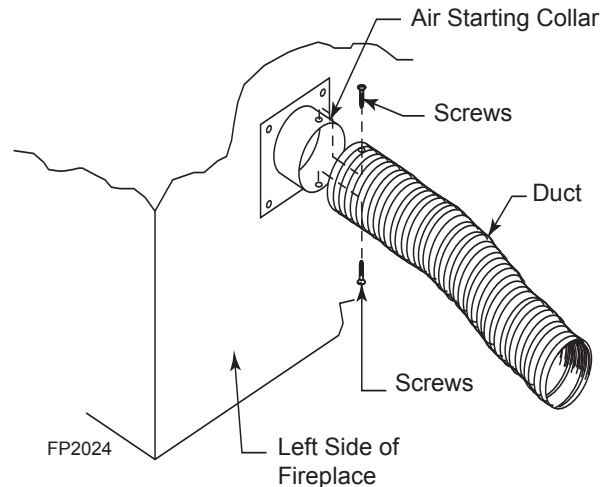

Figure 12 -
4. Select and cut a piece of duct long enough to attach to the fireplace and stick out at least 3" beyond the face of the wall to which the OAC-4 inlet air vent will be attached. Cut duct with a standard pocket knife. *Figure 12*